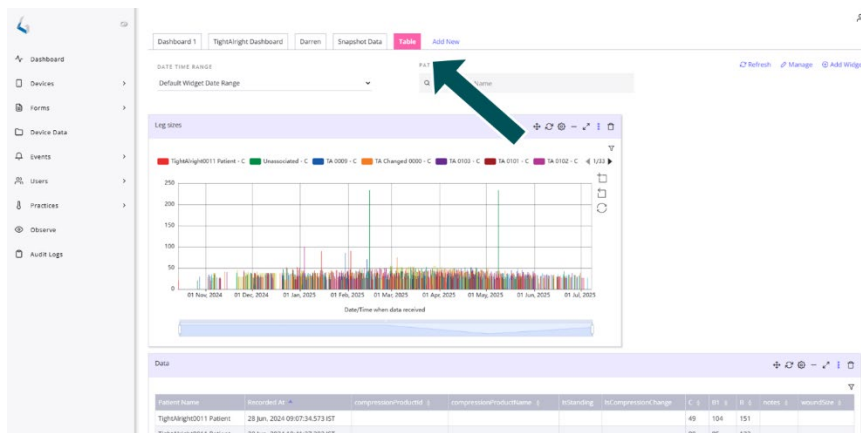

Figure 33. Web App Table dashboard shows all values sent via the Snapshot function in the Mobile App.
- Once logged in, click on the **Table** tab to bring up a dashboard of all Snapshot values (Figure 33).